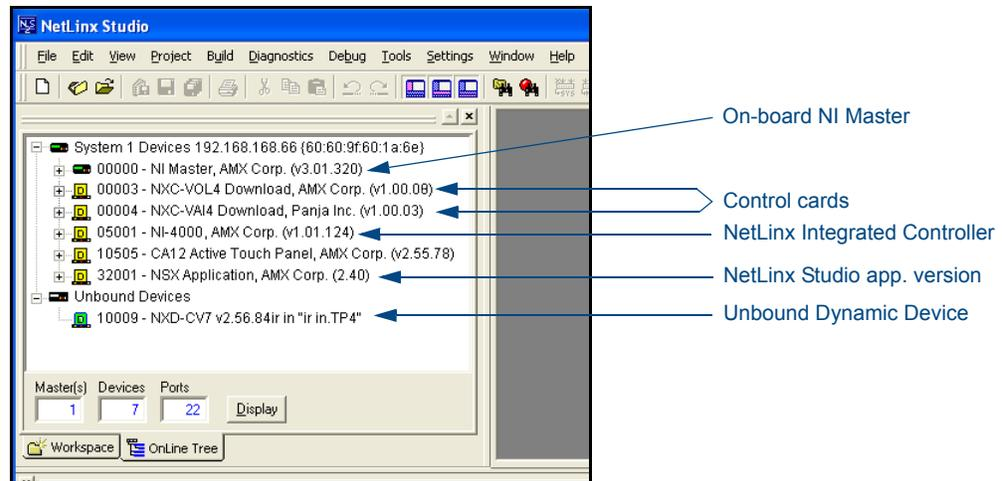

FIG. 28 Sample NetLinx Workspace window (showing OnLine Tree tab)
3. After the Communication Verification dialog window indicates active communication between the PC and the Master, verify the NetLinx Master (**00000 NI Master**) appears within the **OnLine Tree** tab of the Workspace window (FIG. 28). *The default NI Master value is zero (00000) and cannot be changed.*